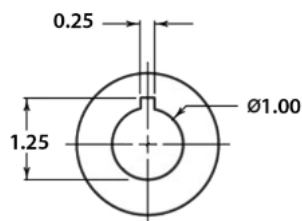

Figure 8.2 Key ways on a cylindrical work piece
- Perform the key ways on a cylindrical work piece to obtain the required dimensions using shaping machine as shown in Figure 8.2